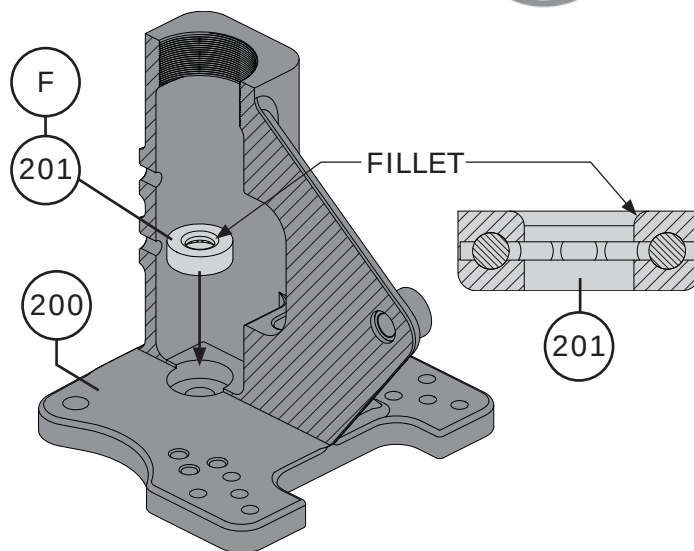

Figure 60 First Bearing Installation
- 3 Install the first bearing (Key 201) into the bearing track of the handwheel body (Key 200) so that the fillet of the bearing is facing up. Refer to Figures 60 and 61.